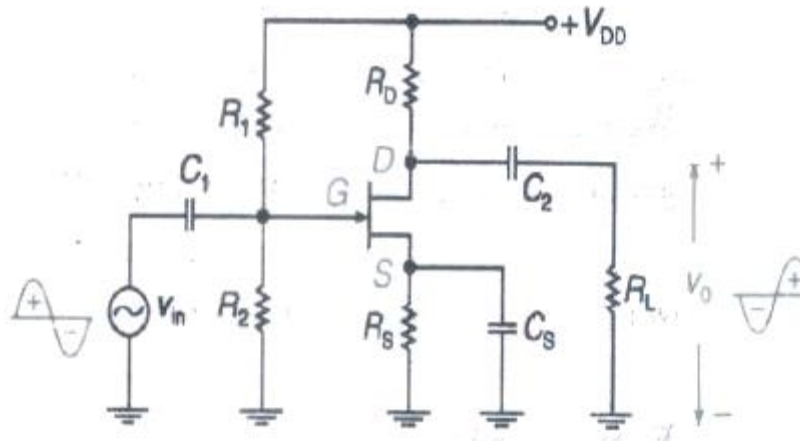

Fig. 5.3 Common Source Amplifier
- Figure 5.3 shows the circuit of a common source N-channel JFET amplifier.